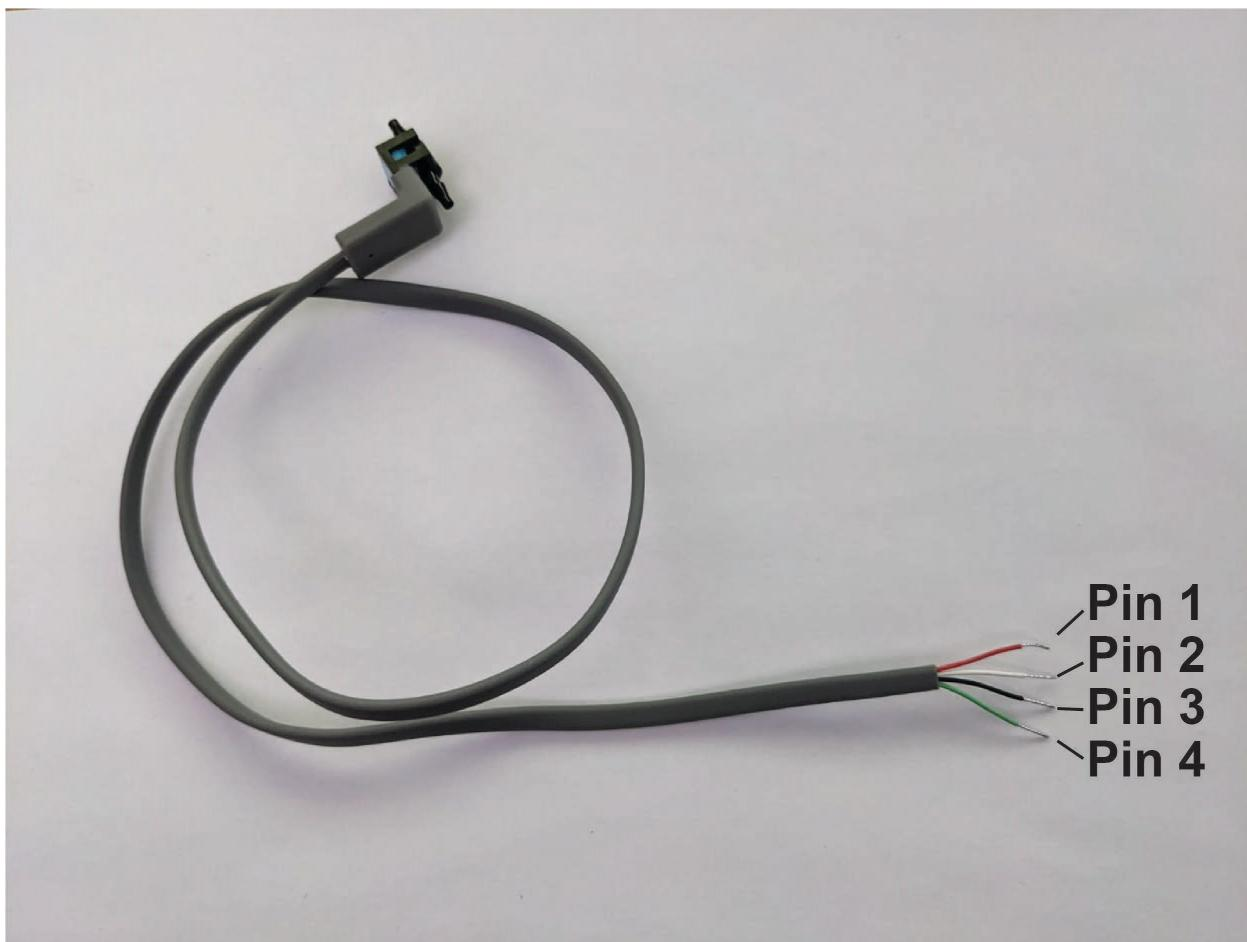

Figure 8 – Pressure sensor wiring
Step 2: Place stackable headers on top of the Wheatstone Amplifier Shield (these are required to allow clearance for the pressure transducer connections). Bend the A0 pin on the stackable header so that it does not connect to the Arduino Uno board (see Figure 8).